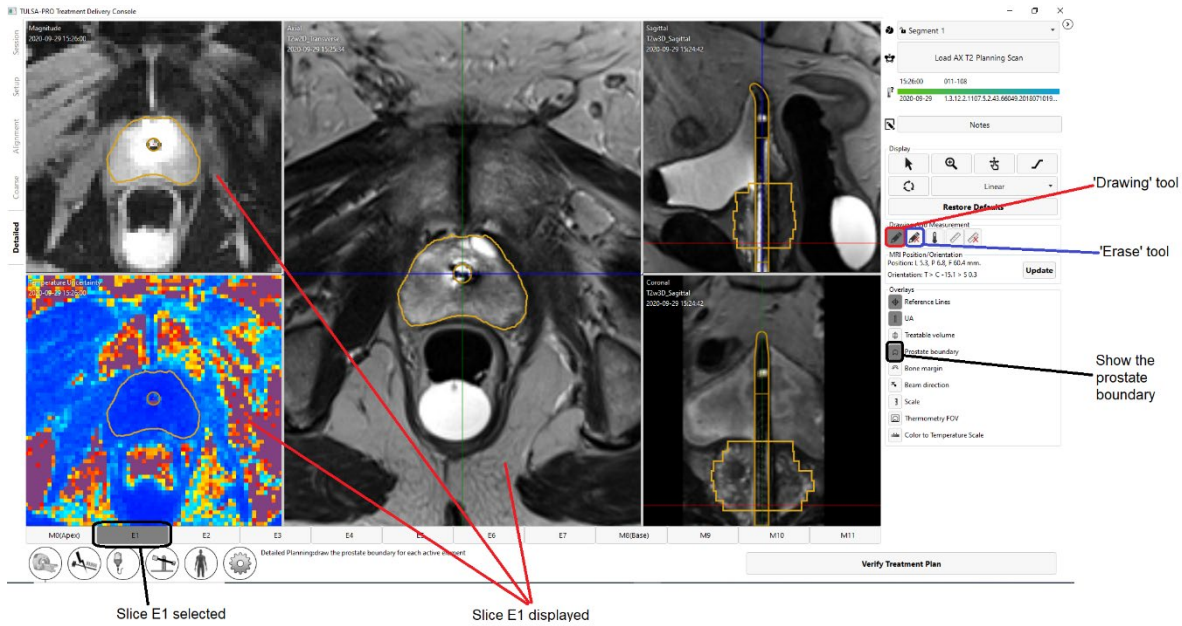

Figure 40: Detailed Planning after drawing boundaries
2. **Radiologist:** To draw the prostate boundary, select the drawing tool and outline the tissue to be ablated on each slice based on the corresponding AX T2 and THERM magnitude images (*Figure 40*). You can select individual slices by clicking the numbered tab at the bottom of the screen, or by pressing the left and right arrow keys on the keyboard. Use the sagittal and coronal views of the SAG T2 images to verify the intended ablation zone in three dimensions.